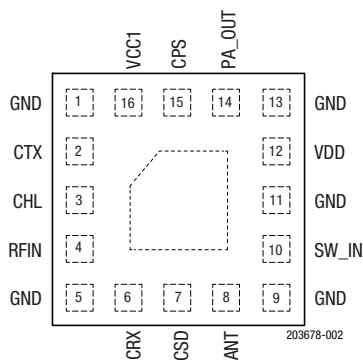
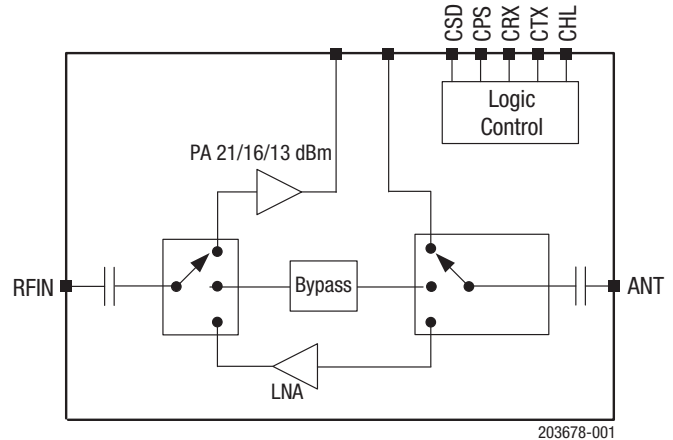

Figure 2. SKY66114-11 Pinout (Top View)
Figure 1. SKY66114-11 Block Diagram
- Low noise figure: 2 dB typical
A functional block diagram is shown in Figure 1. The SKY66114-11 is provided in a small, 16-pin, 2.4 \times 2.4 mm Multi-Chip Module (MCM) package. The pin configuration and package are shown in Figure 2. Signal pin assignments and functional pin descriptions are provided in Table 1.